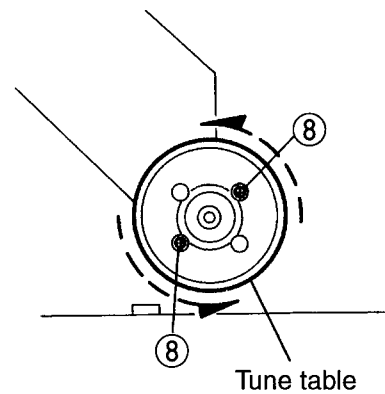

Fig.25
2. While turning the turntable, remove the two screws ⑧ retaining the spindle motor and take out the spindle motor (See Fig.25).